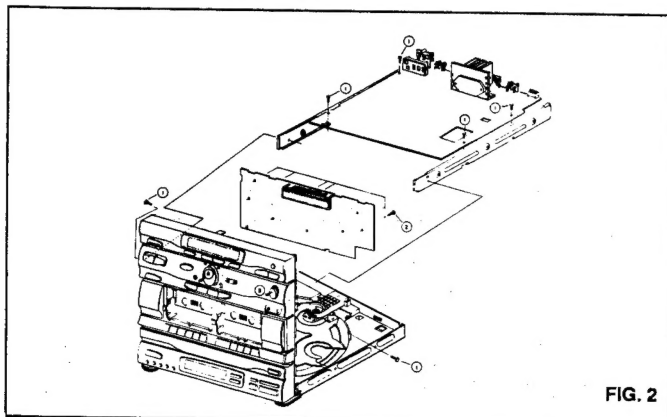

FIG. 2
2. MAIN PCB & FRONT PCB - FIG. 2 -